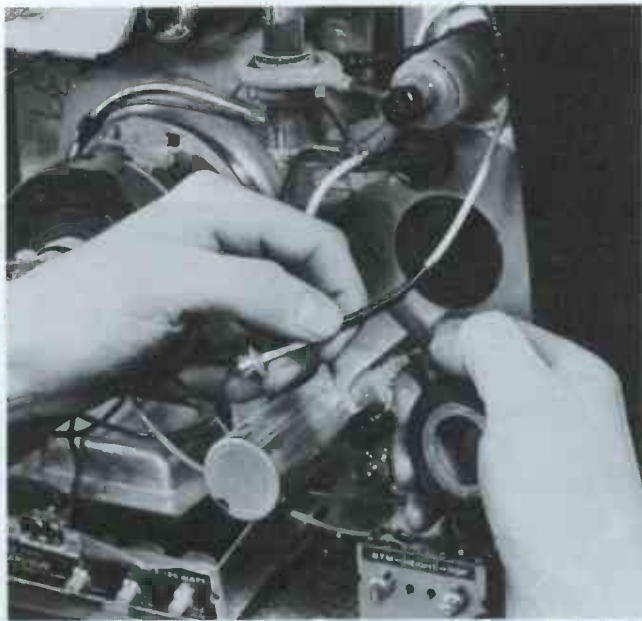

Fig. 1. Spiral wrap with plastic tape should be made to overlap each turn by approximately one-half tape width.
1. In many applications, you can spiral wrap vinyl-plastic tape over the area to be protected using an overlap equal to about 1/2 the width of the tape (Fig. 1). Apply the tape with the tension necessary to pull it from the roll.